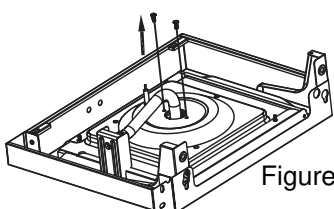

Figure 1
- Install the Cylinder Fixture Support (21) onto the Cart Bottom Panel (12) and secure with two screws (A) as shown in Figure 1.
- Secure further the side shelves with two more screws (A) each side near to the control panel as shown below.
- Remove the trivet and side burner out as in Figure 1 and 2. Put them aside.